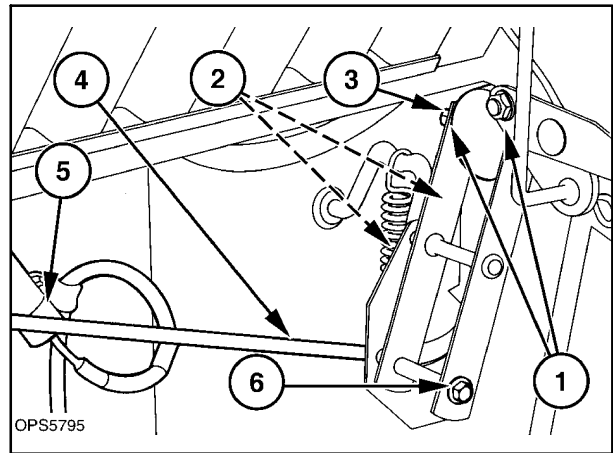

Figure 7-98
7. Install the control rod, 4, in the handle assembly and the left boom lock pin, 1. Slide new push retaining nuts onto rod at 6, Figures 7-98 and 7-99.